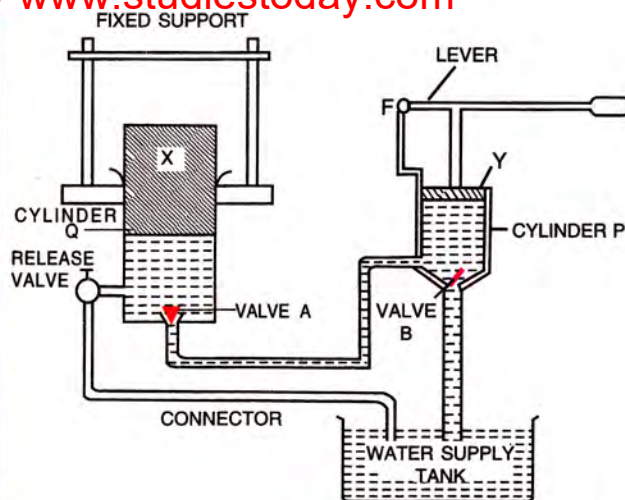

Fig. 4.12
- The diagram in Fig. 4.12 shows a device which makes use of the principle of transmission of pressure.